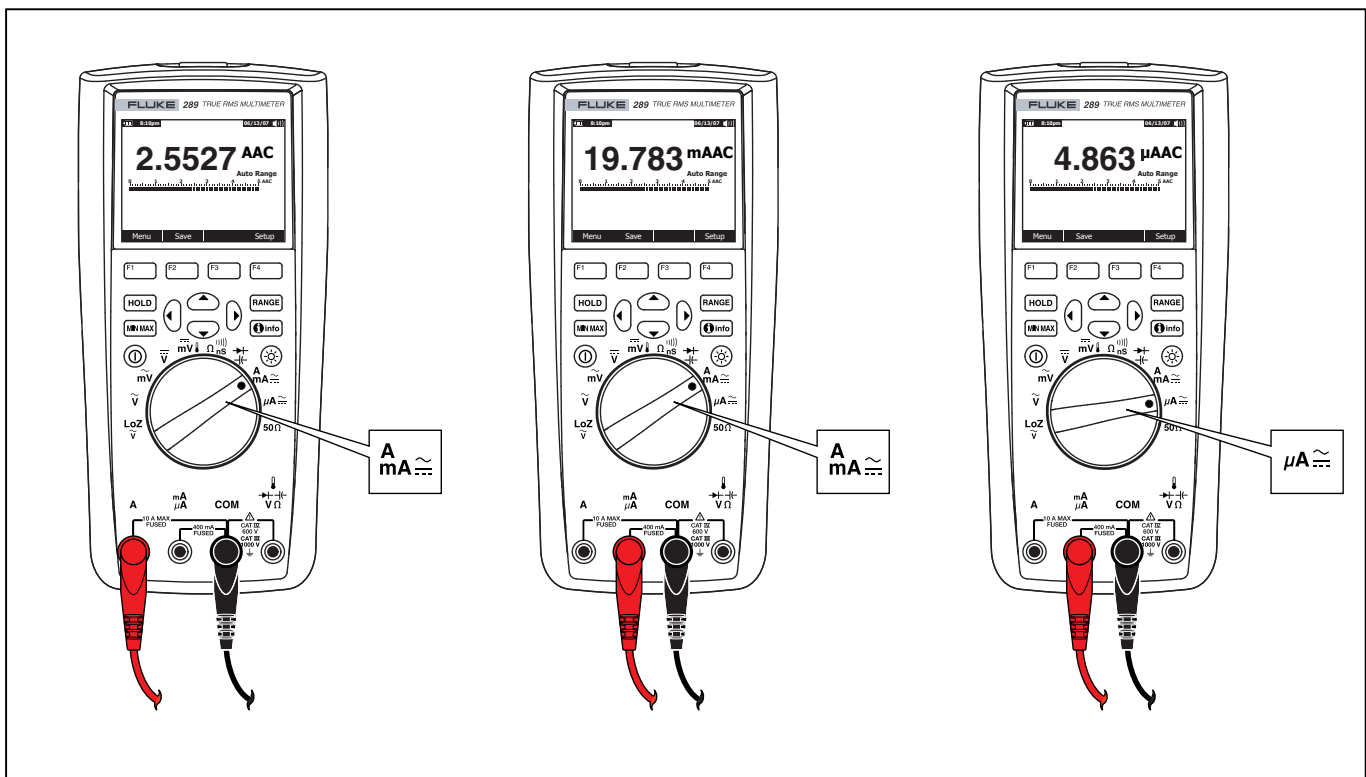

Figure 21. Current Measurement Setup
3. If you are using the A terminal, set the rotary switch to  $\overset{A}{\text{mA}}$ . If you are using the mA/μA terminal, set the rotary switch to  $\overset{\mu A}{\text{mA}}$  for currents below 5000 μA (5 mA), or  $\overset{A}{\text{mA}}$  for currents above 5000 μA. See Figure 21 for test lead connections and function selection. Refer to the "Input Alert Feature" section for information on the alerts the Meter uses when leads are not used correctly for current measurements.